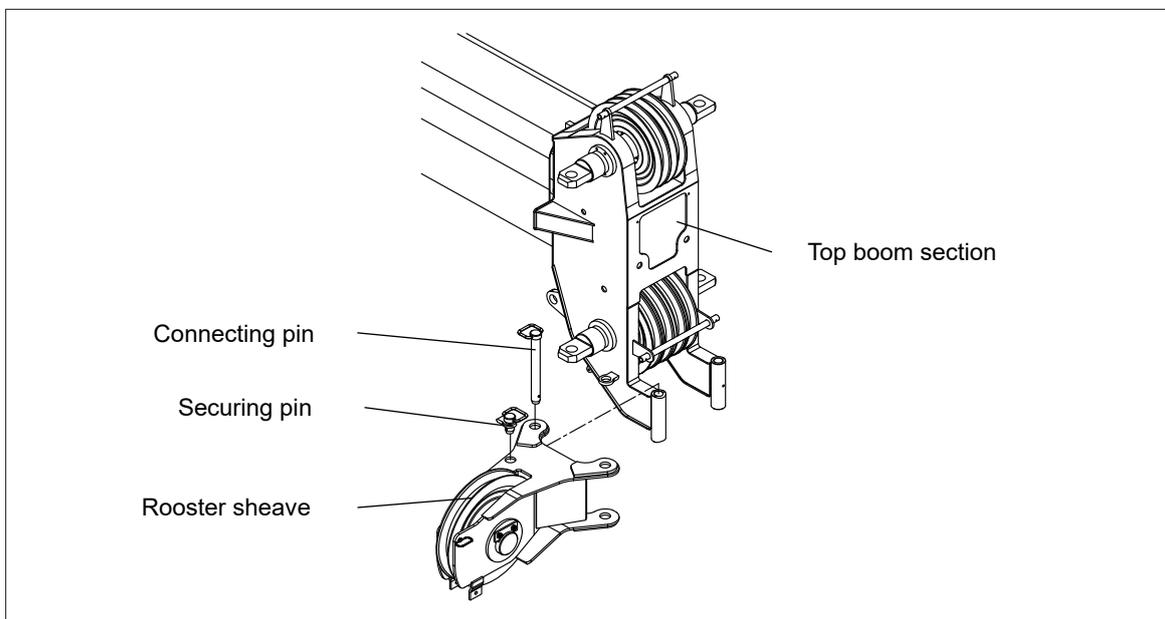

Figure 5-22 Assembly of rooster sheave
- c) Remove the securing pin and move the bracket to the front of the boom. Align the connection points. Install the connecting pin. Refer to Figure 5-22.